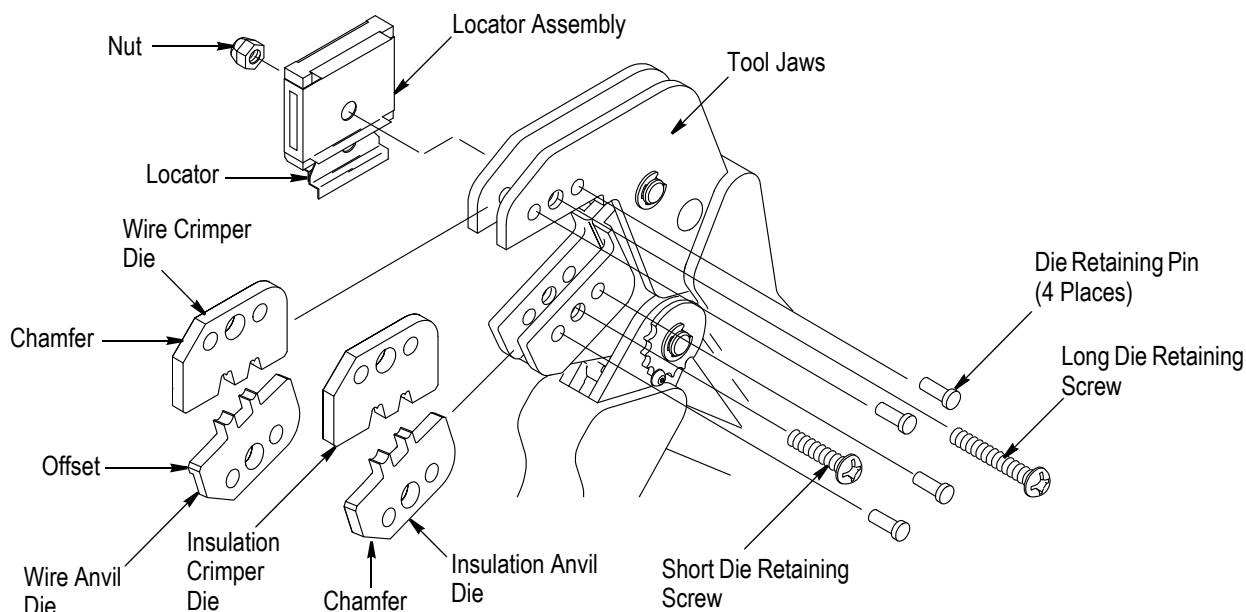

Figure 2
3. Slide the wire anvil and insulation anvil dies onto the moving jaw so that the chamfers and marked surfaces face outward as shown in Figure 2, then insert the two die retaining pins through the holes in the moving jaw and into the holes in the dies.
5. Slide the wire crimper and insulation crimper dies onto the stationary jaw so that the chamfers and marked surfaces face outward as shown in Figure 2, then insert the two die retaining pins through the holes in the stationary jaw and into the holes in the dies.